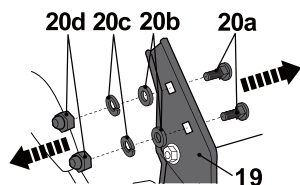

Fig. 1
1. Remove the mounting sets (20) from the handle supports (19) and keep them handy (Fig. 1).